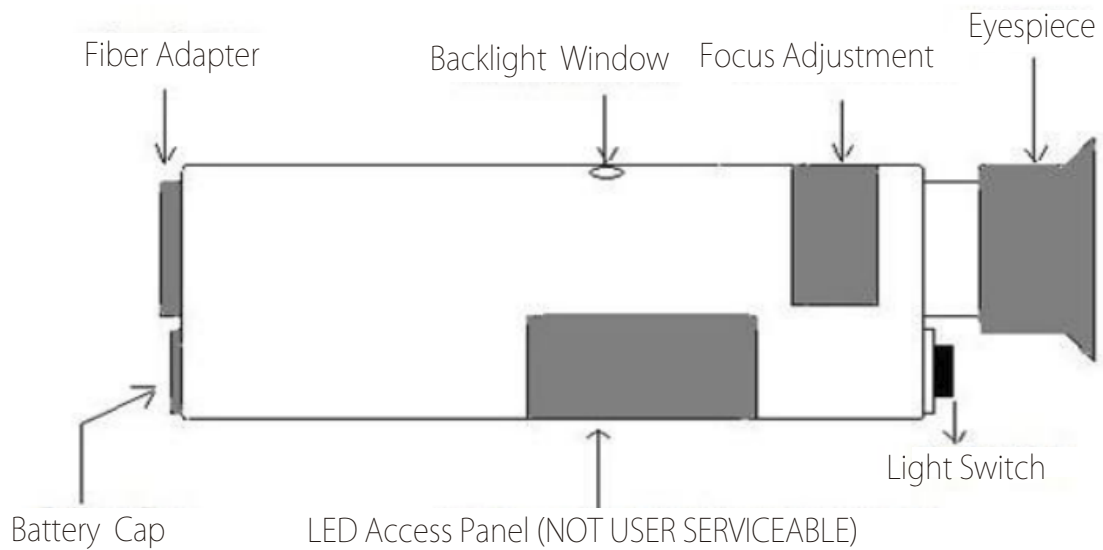

Figure 1
2. Now turn the light on. The light operates by pressing and holding the light switch in. You can tell if the light is on by checking the "Backlight Window" (see figure 1). If you see light through this window, you are ready to work.